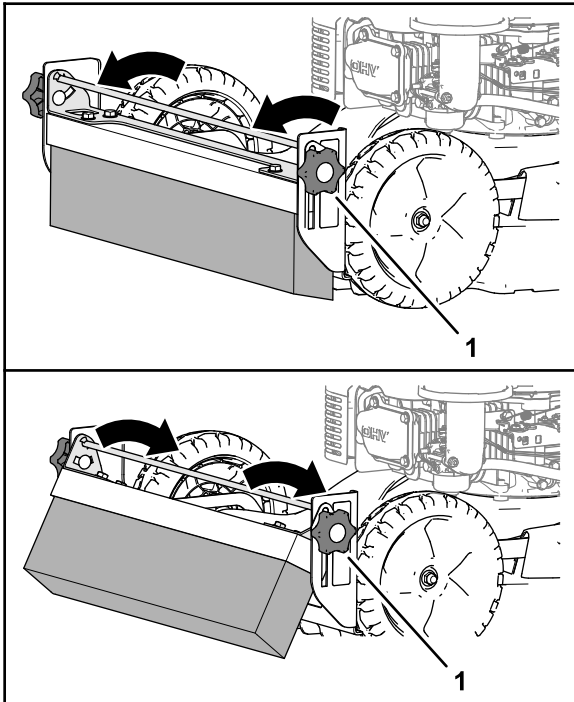

Figure 18
1. Loosen the knobs at the sides of the brush mount (Figure 18).
2. Use the handle of the brush-adjustment bracket to adjust the angle of the groomer brush (Figure 18).
3. Tighten the knobs (Figure 18).